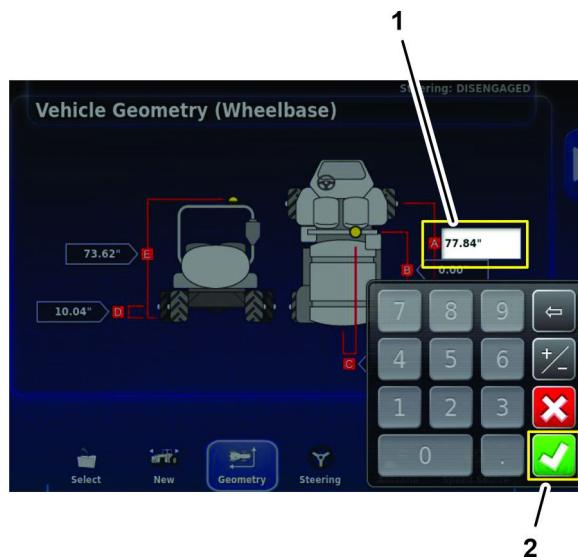

Figure 189
1. Press the front and rear axle centerline icon (A), use the on-screen keypad to enter the measurement that you recorded in the vehicle-geometry form of Measuring the Vehicle Geometry \(page 82\), and press the confirm icon (Figure 189).